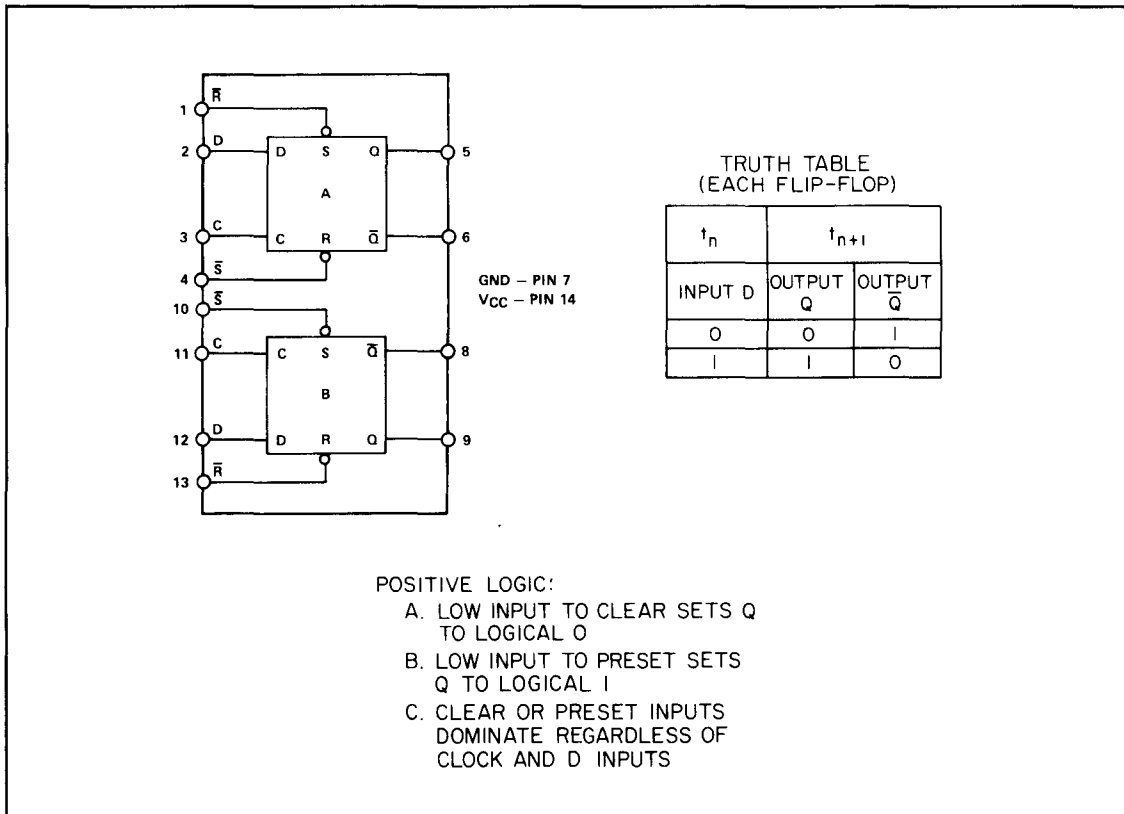

Figure 3-5. Dual D-Type Edge-Triggered Flip-Flop
3-21. Figure 3-5 shows the logic diagram, outline drawing, and truth table for the 1820-0077. As the truth table shows, the input data (D) is transferred to the output on the positive edge of the clock pulse. Clock triggering is determined by a voltage level of the clock pulse and is not directly related to the transition time of the positive-going pulse. After the clock input threshold level has been passed, the D input is locked out. A low at pin 4 or 10 will set the respective FF so the Q is high and  $\bar{Q}$  is low. A low at pin 1 or 13 will reset the flip-flop so that Q is low and  $\bar{Q}$  is high. The set and reset inputs will override all other inputs.